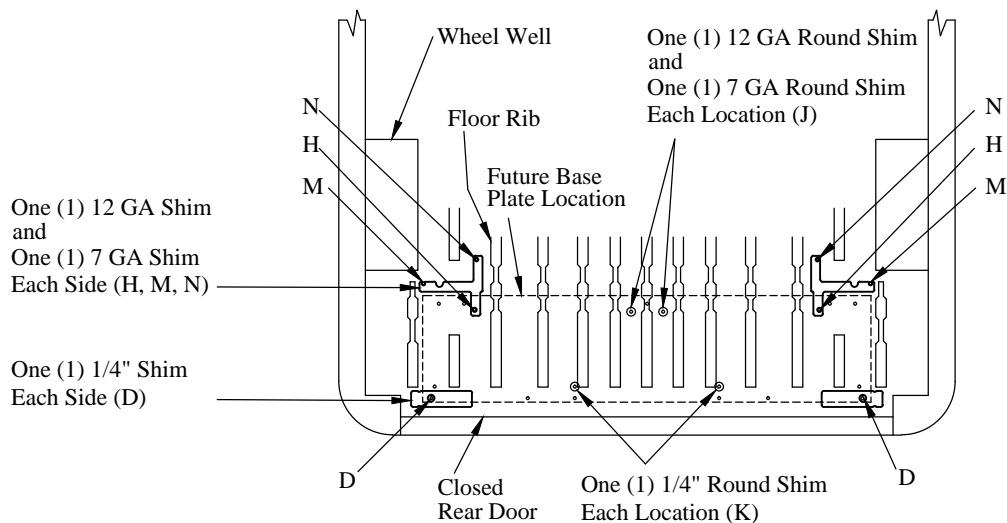

Figure 8: Rib shim locations (top view).
1. **Position** the supplied rib shims over the "H", "M", "N" locations (Figure 8).
2. **Position** the supplied round shims at each "J" location (Figure 8).
3. **Position** the supplied 1/4" rib shims over the "D" locations (Figure 8).
4. **Position** the supplied 1/4" round shims at each "K" location (Figure 8).